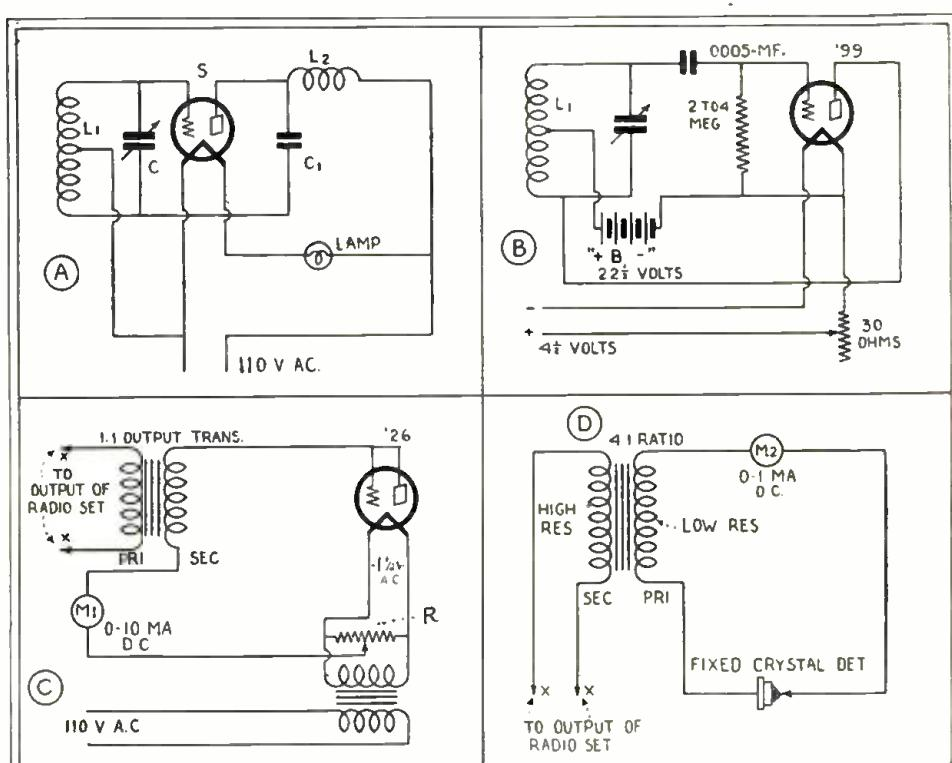

Fig. 3
**T**HE oscillator shown in Fig. 3 at A is the best to use if a 110-volt A.C. line is available; it is easier to take on your service trips because it doesn't require any batteries. That shown at B is a good one to use where A.C. power lines are not available.